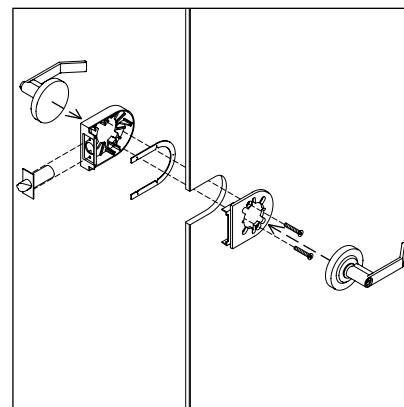

Figure 12 - Reverse Handle & Install
15. Flip door hardware/housing and re-install to door leaf (Figure 12).